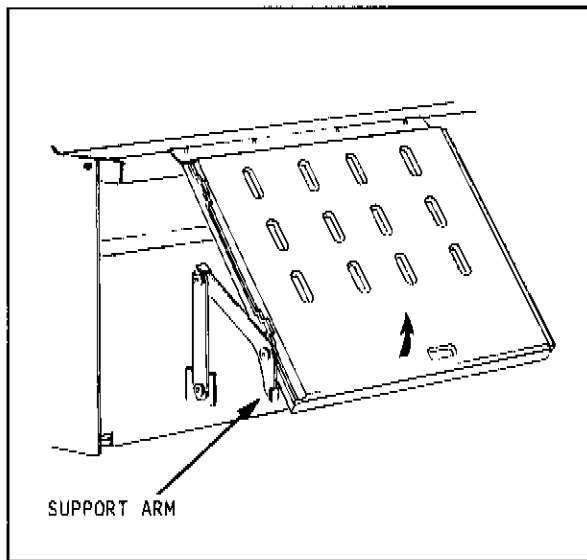

Figure S-30a Version Number 1
- * On version number 1, pivot the Gum & Mint Assembly upward until the support arms fall into the locked position. See Figure S-30a below.